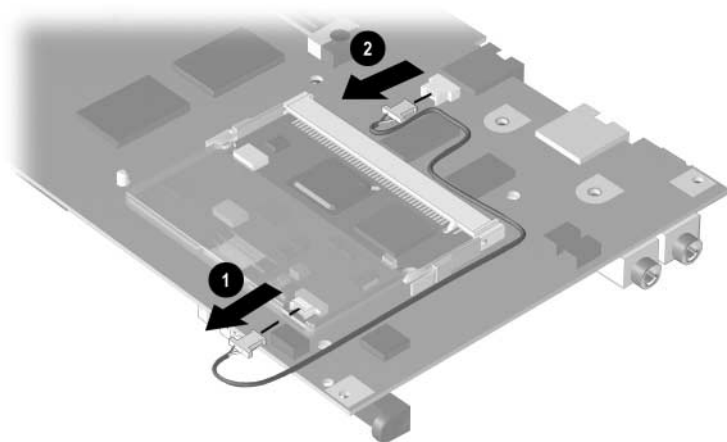

Figure 5-36. Removing the Modem Cable
3. If the modem is installed on the system board, disconnect the modem cable from the modem ❶ (Figure 5-36).
4. Disconnect the modem cable from the system board ❷.
When installing the modem cable, route the cable as shown in Figure 5-36.